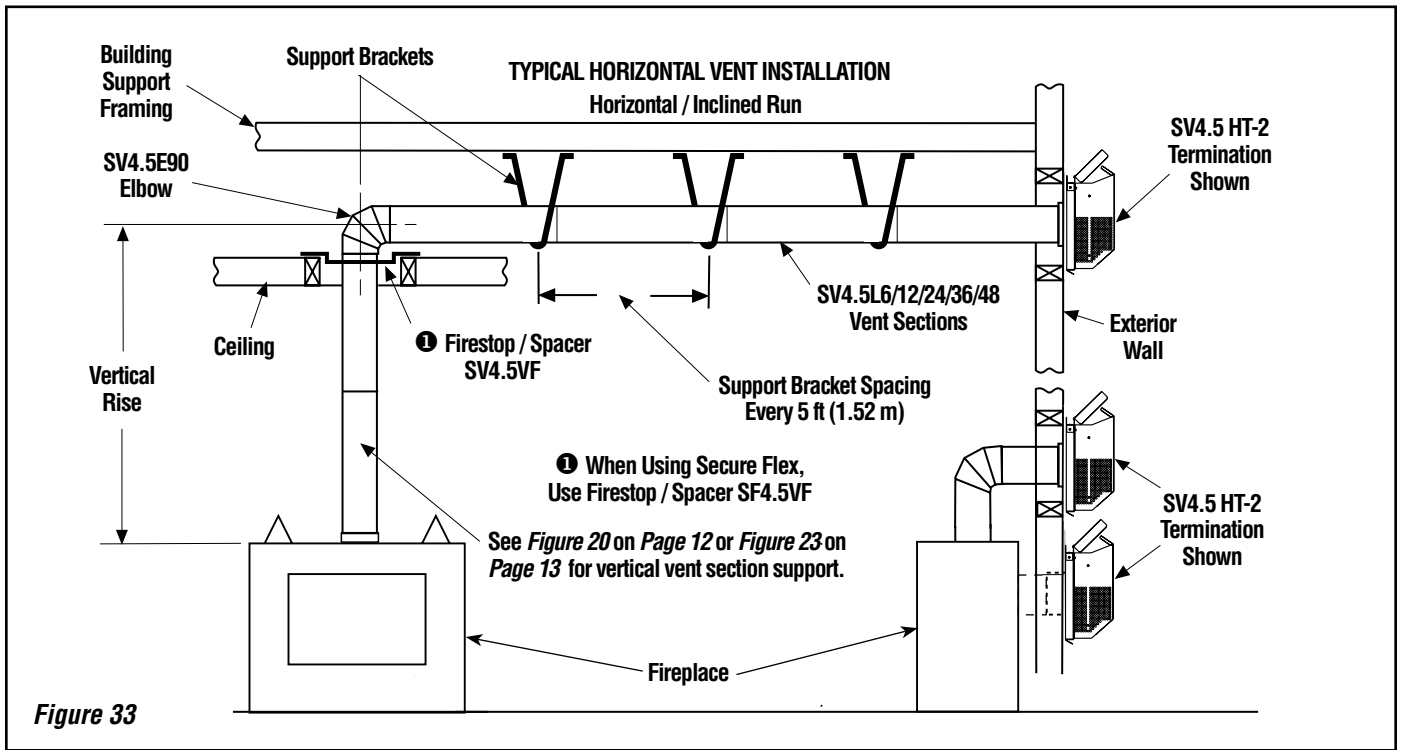
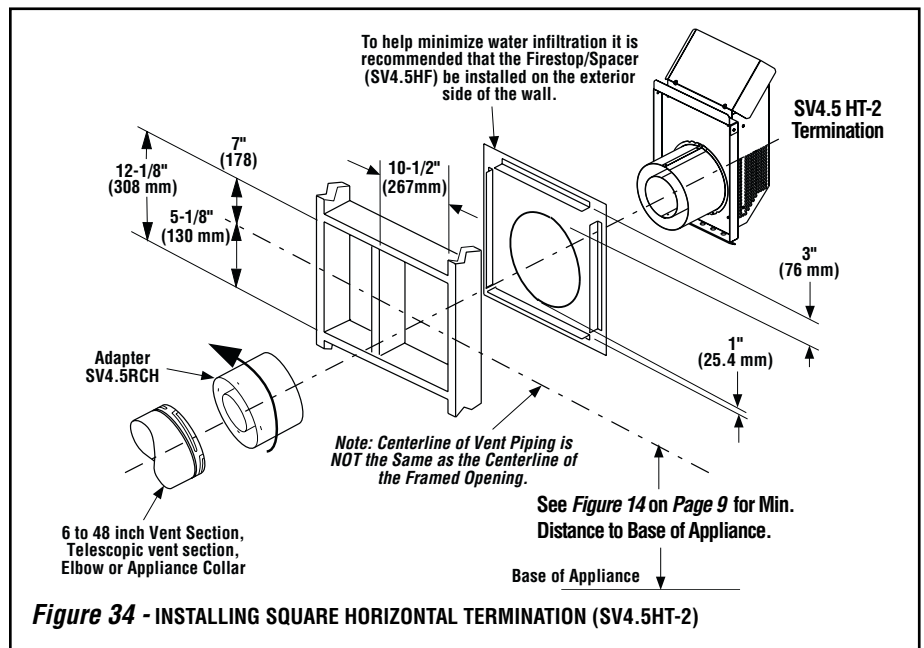

Figure 33
Figure 34 - INSTALLING SQUARE HORIZONTAL TERMINATION (SV4.5HT-2)
G. Continue installation of horizontal/inclined sections - Continue with the installation of the straight vent sections in horizontal/inclined run as described in **Step C**. Install support straps every 5 ft. (1.52 m) along horizontal/inclined vent runs using conventional plumber's tape. **See Page 17, Figure 33. It is very important that the horizontal/inclined run be maintained in a straight (no dips) and recommended to be in a slightly elevated plane, in a direction away from the fireplace of 1/4" rise per foot (20 mm per meter) which is ideal, though rise per foot run ratios that are smaller are acceptable all the way down to at or near level.** Use a carpenter's level to measure from a constant surface and adjust the support straps as necessary.
Figure 33 on Page 17, and Figures 34 to 42 on Pages 18 to 21 and their associated Horizontal Vent Table illustrate the various horizontal venting configurations that are possible for use with these appliances. **Secure Vent** pipe applications are shown in these Figures; **Secure Flex** pipe may also be used. A Horizontal Vent Table summarizes each system's minimum and maximum vertical and horizontal length values that can be used to design and install the vent components in a variety of applications.
See **Figure 33**. **It is very important that the horizontal/inclined run be maintained in a straight (no dips)** and recommended to be in a slightly elevated plane, in a direction away from the fireplace of 1/4" rise per foot (20 mm per meter) which is ideal, though rise per foot run ratios that are smaller are acceptable all the way down to at or near level.
K. Attach termination adapter - Attach the adapter (adapter - SV4.5RCH - provided with the termination) to the vent section or telescoping vent section), elbow or appliance collar as shown in **Figure 34** in the same manner as any SV4.5 vent component (refer to **Step E**).
L. Install Firestop/Spacer at exterior wall - When using the **square** termination, install SV4.5HF (Secure Vent), SF4.5HF (Secure Flex) Firestop/Spacer over the opening at the exterior side of the framing, long side up, with the 3 inch spacer clearance at the top as shown in **Figure 34**, and nail into place.